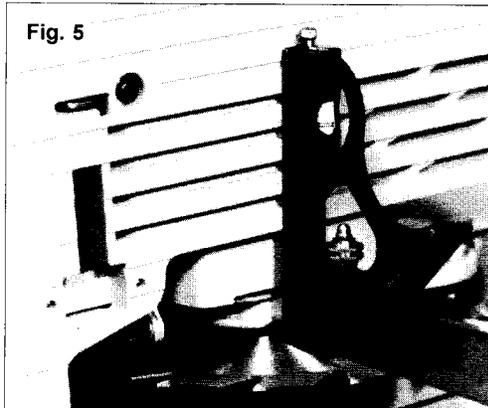

Fig. 5
### Bevel Adjustment Screw (7-1/4", 8-1/4", 10-1/4" Saws) (Fig. 5)
4. Turn the bevel adjustment screw in or out until the blade is at a 90 degree angle with the shoe (Fig. 5).